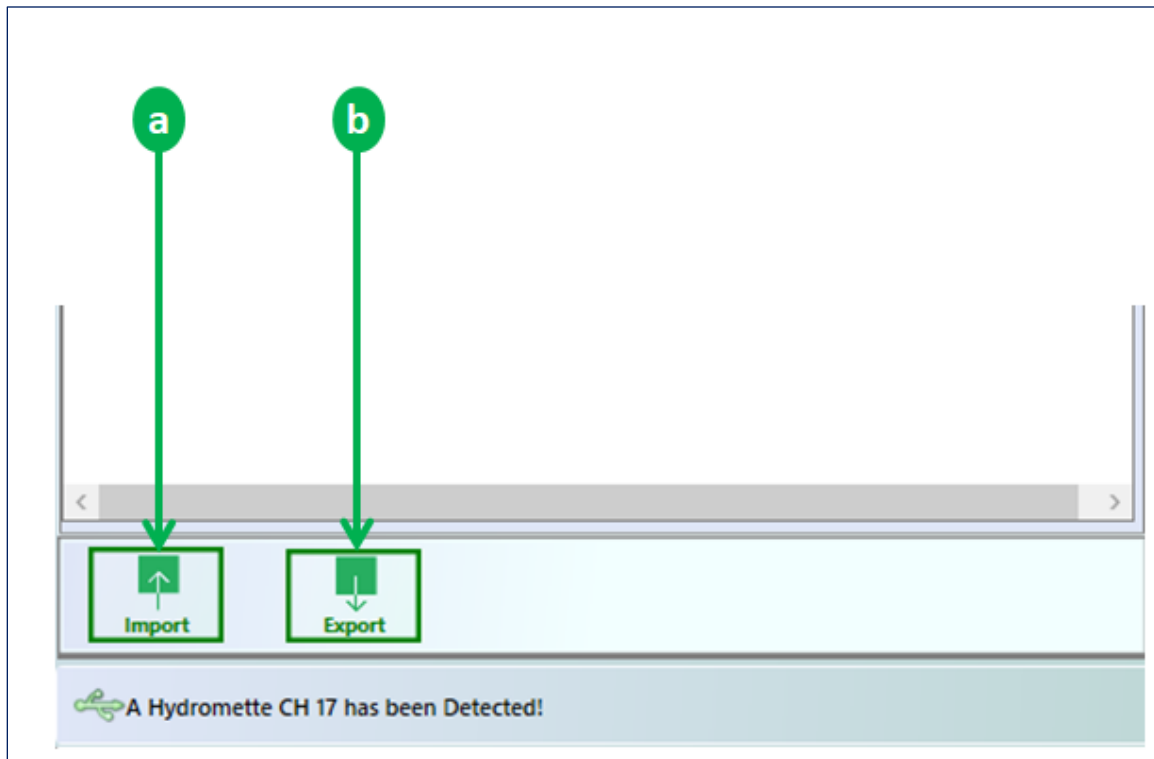

Figure 9-4: importing/exporting a project folder
Following actions can be performed on a project item listed in Figure 9-4. You can also use a context menu by right-clicking on a project item.
To navigate to a project item on the list, you have three options: (1) click on the node of the tree view (**a** in Figure 9-4), (2) double click on one of the project items, or (3) click on the button **b** in Figure 9-4. The elements (batches) of the selected project will be expanded: the expanded batches can be identified by this icon: **B**